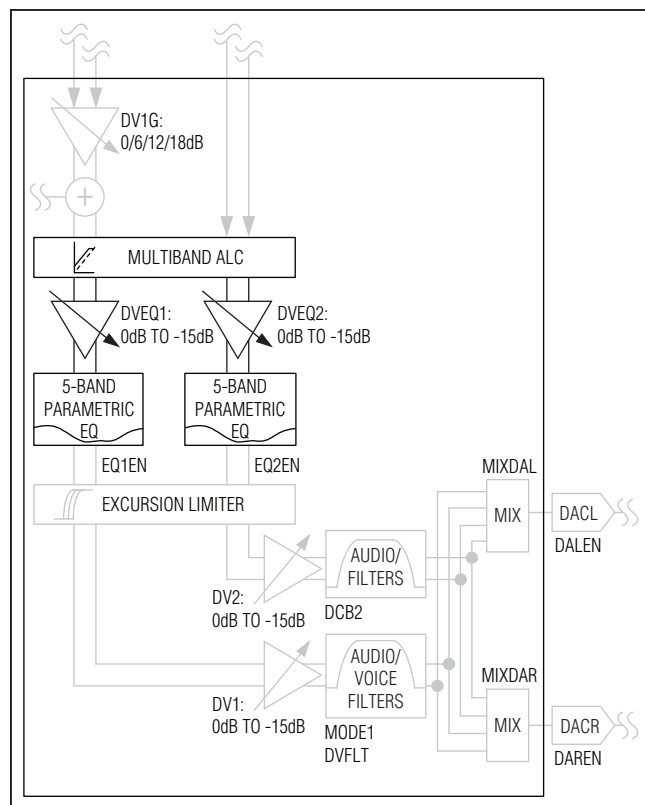

Figure 19. Playback Path Signal Processing Block Diagram
The IC playback signal path includes automatic level control (ALC) and a 5-band parametric equalizer (EQ) (Figure 19). The DAI1 and DAI2 playback paths include separate ALCs controlled by a single set of registers. Two completely separate parametric EQs are included for the DAI1 and DAI2 playback paths.